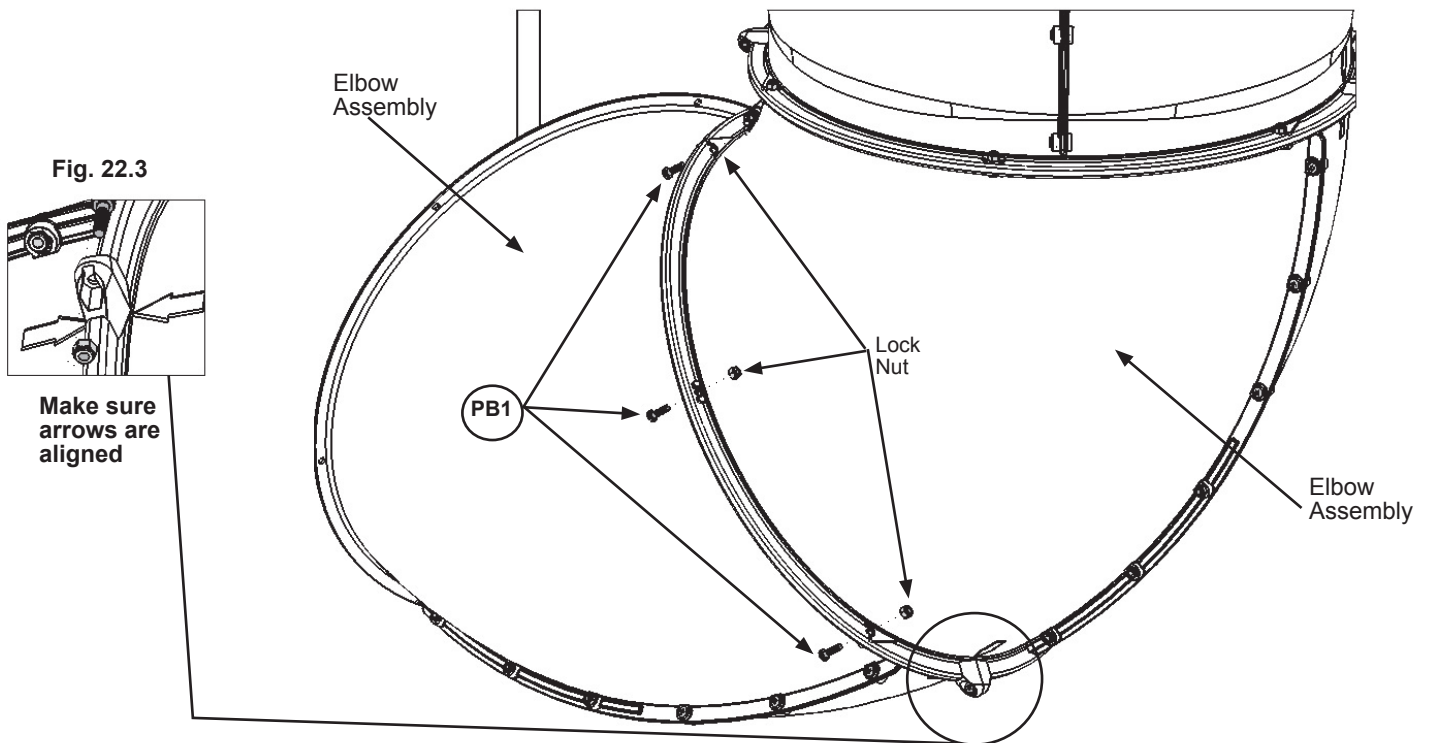

Fig. 22.3
**C:** Attach 1 TNR2 Slide Clamp Ring to the bottom of the joined Assemblies using 3 (PB1) 1/4 x 3/4" Pan Bolts (with lock nut), making sure to match the arrows up with the end of the clamp ring (where a seam will be) as shown in fig. 22.3 and 22.4.
**D:** Connect the 2 TNR2 Slide Clamp Rings together in 2 spots using 1 (PB1) 1/4 x 3/4" Pan Bolt (with lock nut) per hole. Make sure seams and arrows line up and then tighten all bolts. (fig. 22.3 and 22.5).